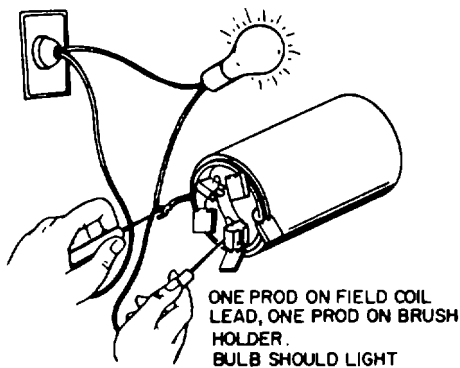

Figure 6-7. Test for Open Field Coil
(6) Testing field coils for open circuit. Place one prod on the connector and the other on a clean spot on the brushholder (fig. 6-7). If the test lamp lights, the field coil is okay. Check all brushholders in the same manner.